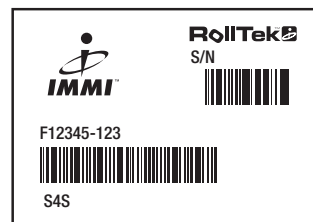

Figure 2
1. Locate product identification label. This is located on the side surface of the unit. **See Figure 2.**